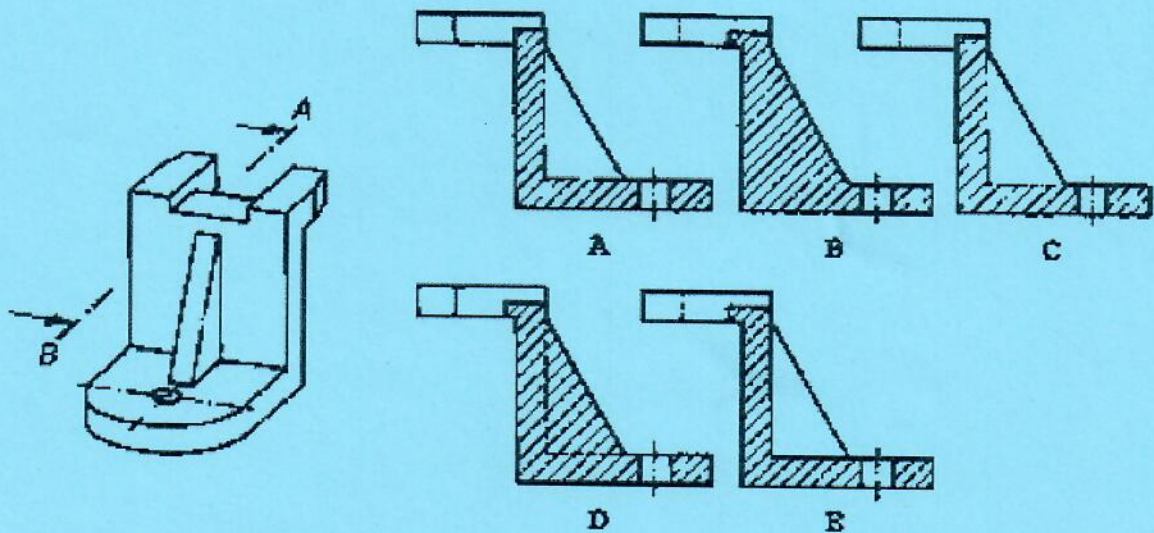

Figure 2 An isometric of a workpiece sectioned along AB
- b) Which picture shows the correct sectional view of the workpiece in Figure 2